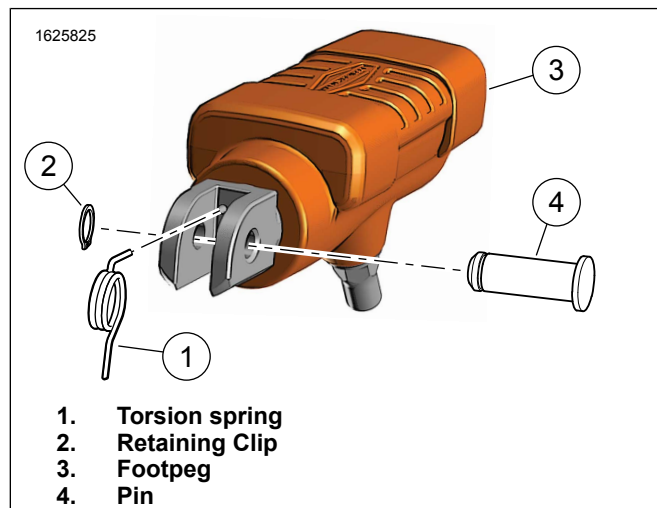

Figure 2. Rider Footpeg Torsion Spring Install
1. Figure 2 Remove pin (4) and retaining clip (2). Retain.
- a. Save all hardware including torsion spring (1) for installation on **new** footpegs (3).
2. Insert short leg of torsion spring (1) into hole in **new** footpeg (3).